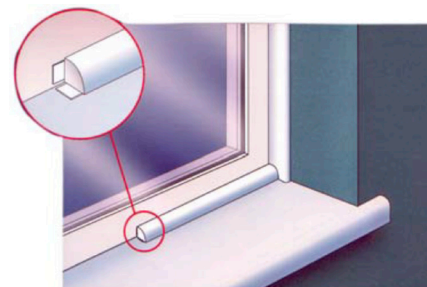

Fig 1 Positioning of TMT
- The exposed adhesive face should be unwound and carefully located onto the surface of the trim section, setting back 1 to 2 mm from the edge of the section. (Fig. 1)